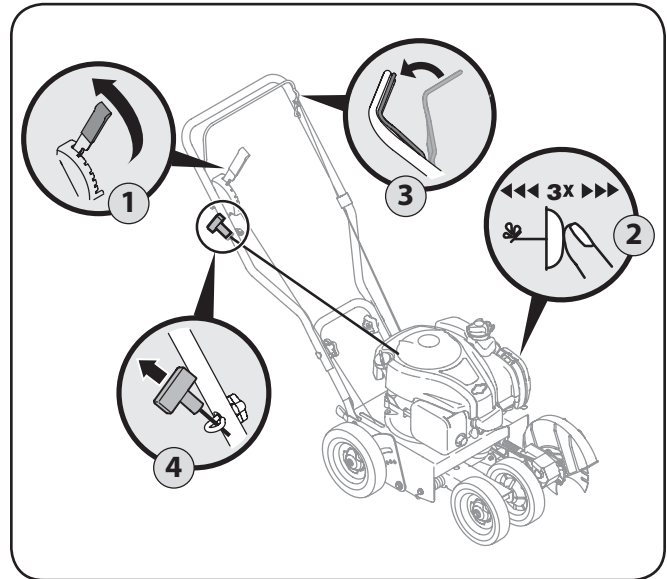

Figure 5-1
2. Push the primer three times. See Figure 5-1. Do not prime to restart a warm engine.
4. With your right hand, grasp recoil starter handle and pull rope slowly until resistance is felt, then pull with a rapid, continuous, full arm stroke. See Figure 5-1. Keeping a firm grip on the starter cord handle, let the rope rewind slowly. Repeat until engine cranks. Let the rope rewind each time slowly.